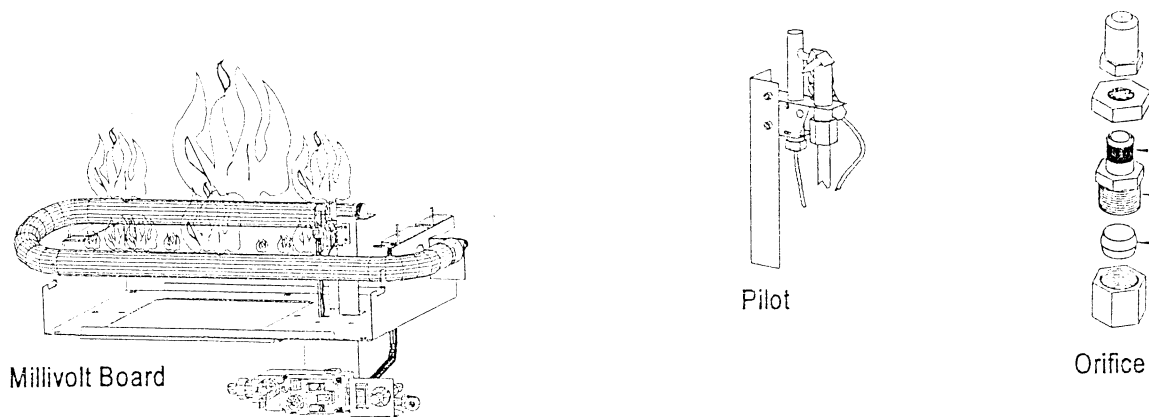

Figure 15
6. Visually check the pilot light and burner when they are burning. See Figure 15. The flames should be steady, not lifting or floating.
Generator wires loose at regulator terminals	Reposition wire and tighten screws. See Figure 15 for wiring instructions.